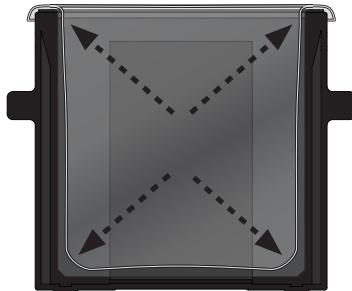

FIG. 5
If using a Bag, place a Liner Bag (G10) into the dust bin (B), making sure to fully expand the bag by tucking it into the corners. Fold the top of the bag over the top of the dust bin [FIG. 5].